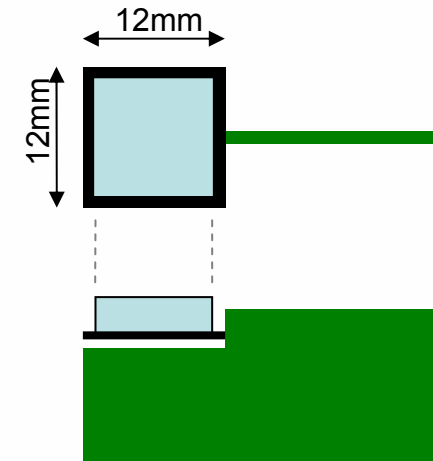

Fig.1
- **Probe-Fed RHCP Patch (Fig.1)**